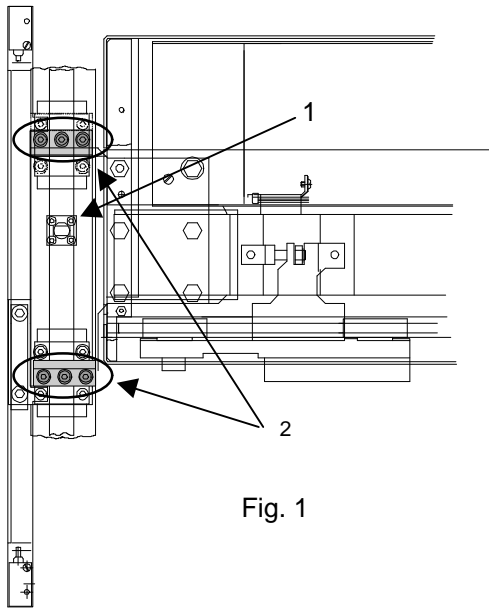

Fig. 1
4. Remove the 4 screws of the fixing part (Y-max side) and pull out the locating pin upwards (Fig. 1/1).
7. If necessary, clean locating pin (Fig. 1/1) before installation and lubricate using the oil supplied with the plotter.